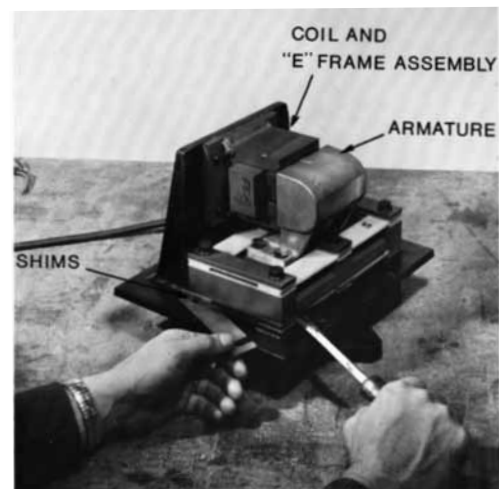

FIGURE 3
- a. Loosen the bolts fastening the E-Frame, Part 4, (see “Parts List”, Eriez Form VT-3555) and those holding the spring assembly. Add or remove shims, Part 13, equally at each side of the spring assembly, as shown in Fig. 3, until impact pad, Part 9, barely touches anvil, Part 10. Tighten the bolts holding the spring assembly.